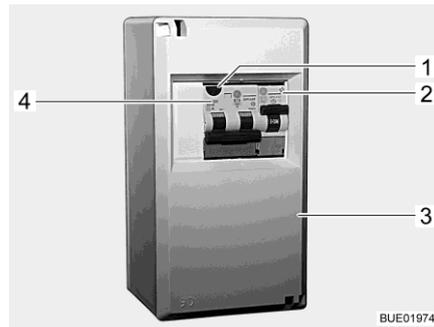
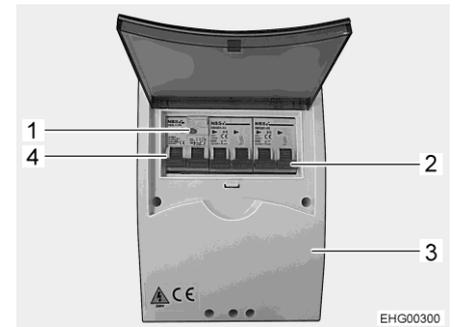

Fig. 122 230 V fuse box
Fig. 123 230 V fuse box (variant)
- Switch off the safety cut-outs (Fig. 122,2, Fig. 122,4 or Fig. 123,2, Fig. 123,4) in the fuse box (Fig. 122,3 or Fig. 123,3).
- When the vehicle is connected to the 230 V supply, press the test button (Fig. 122,1 or Fig. 123,1) of the combined fault current protection switch /safety cut-out (Fig. 122,4 or Fig. 123,4) in the fuse box (Fig. 122,3 or Fig. 123,3). The fault current protection switch must trip.